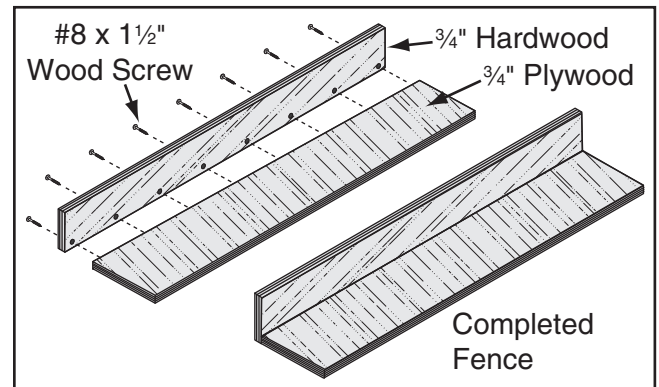

Figure 82. Location of pilot holes.
2. Pre-drill and countersink eight pilot holes $\frac{3}{8}$ " from bottom of 3" wide board, then secure boards together with eight #8 x $1\frac{1}{2}$ " wood screws, as shown in **Figure 82**.